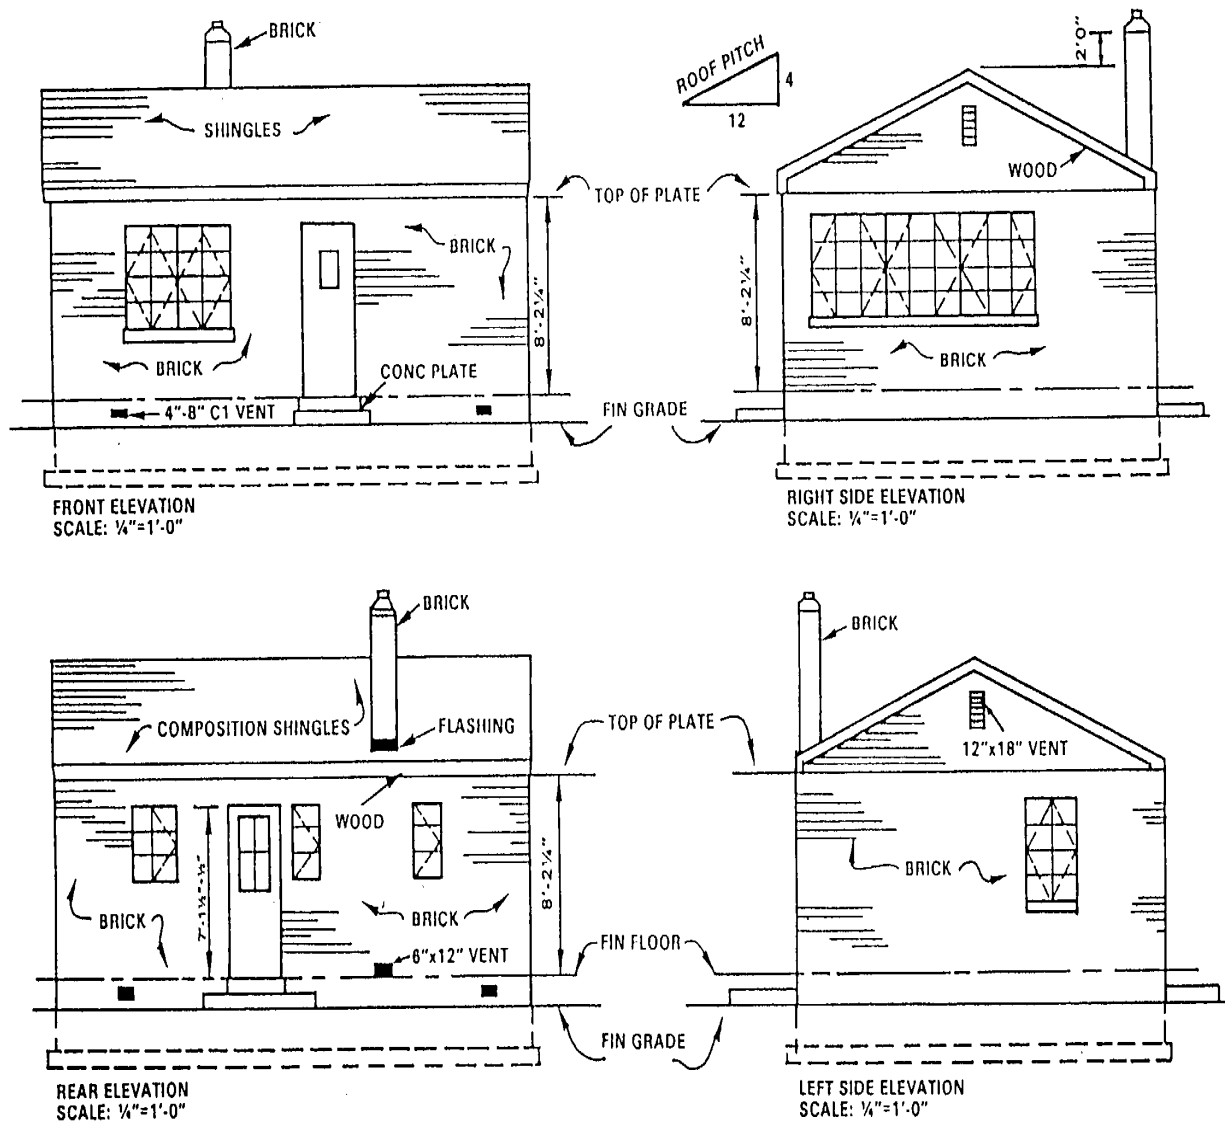

Figure 4, Elevation View
- **Elevation View.** View as seen from the front, rear, or sides. Elevations show the finished structure as viewed from various side views (See Figure 4, Elevation View).
- **Doors:** On elevation drawings, doors are shown as a realistic representation. They are normally indexed to a door schedule (See Figure 4, Elevation View).
- **Windows:** On elevation drawings, windows are also shown as a realistic representation. They too are normally indexed to a window schedule (See Figure 4, Elevation View).